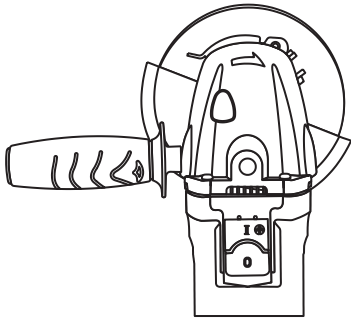

Fig. 4
- Depress the spindle lock button (1) and rotate the clamp nut (2) until the spindle locks.
- Remove the disc flange (4). It will simply pull off the spindle (5).
- Pull the guard clamp lever (6) outward to allow the guard clamp to expand for installation.
- Slide the guard clamp (7) over the spindle housing (8) until the blade guard locating indents (9) fit into the groove (10) in the spindle housing
- Rotate the guard so it is positioned correctly depending upon the location of the side handle in Fig. 4, 5 & 6.
- Close the guard clamp lever (6) fully so that the guard firmly locks into position.